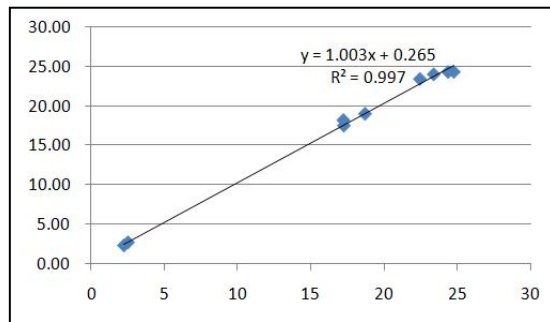

Fig 7
- c) Select the data on the coordinates, Right-click, Choose: Add Trendline, The screen will display the dialog box, After "Display formula" check, Press Close to obtain the Fig 7.
- d) According to the formula in Fig. 7,  $y = 1.003x + 0.265$ , a correction coefficient can be obtained. 1.003 is the slope, 0.265 is the intercept.